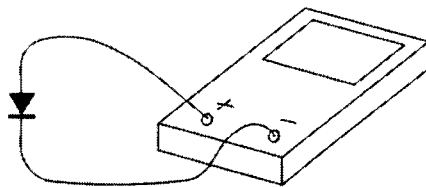

figure B03.4
- measure the forward and reverse resistance (figure B03.4 and B03.5) of the diodes D₁ (silicon) and D₂ (germanium), and record the data in the table (note: in some multimeters, set for resistance, the red terminal is the negative, and the black the positive –check yours)